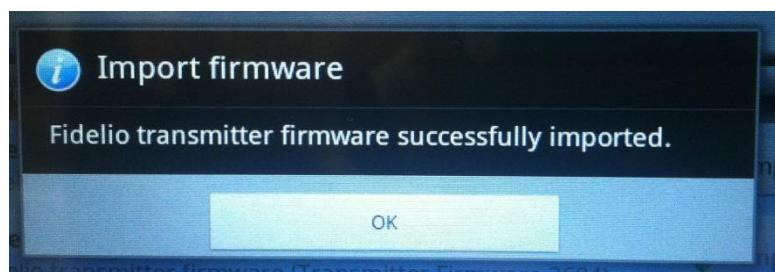

Figure 91: Successful Import Window
- Once the firmware package is successfully imported to the micro SD card, the following message will be displayed (Figure 91).